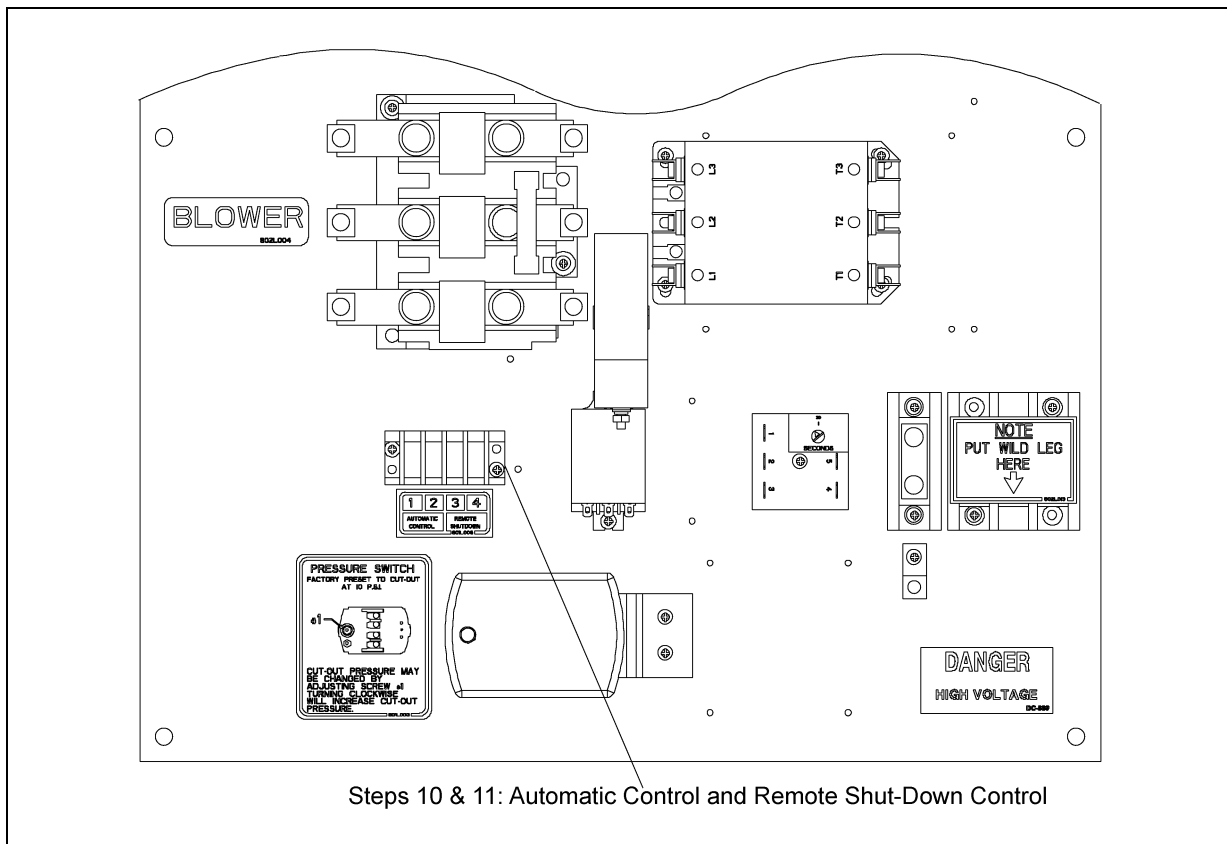

Figure 4S
8. **5 Amp Fuse:** A five (5) amp fuse protects the electrical components in the control box.
10. **Automatic Control Terminals:** When the air system is ready to run (i.e., the control ready light is on), the system can then be started and run by completing the circuit between terminals one (1) and two (2). The blower, airlock or auxiliary equipment will not run in the automatic mode unless terminals one (1) and two (2) are connected. For example, a closing set of contacts in a dryer control box would complete the circuit between terminals one (1) and two (2) and automatically start the air system. (See Figure 4S)
No voltage should be supplied to terminals one (1) and two (2). See the diagram on Pages 26 & Pages 27 and See Figure 4S.
11. **Remote Shut-Down control:** A remote piece of equipment can be caused to shutdown with the air system by putting terminals three (3) and four (4) in series with the control circuit of the remote equipment. This circuit has a maximum current rating of 10 amps. The circuit between terminals three (3) and four (4) is closed whenever the control circuit ready light is on, regardless of the position of the control switches. (“AUTO”, “OFF” or “ON”) See the Diagram on Pages 26, Pages 27 and Pages 32.